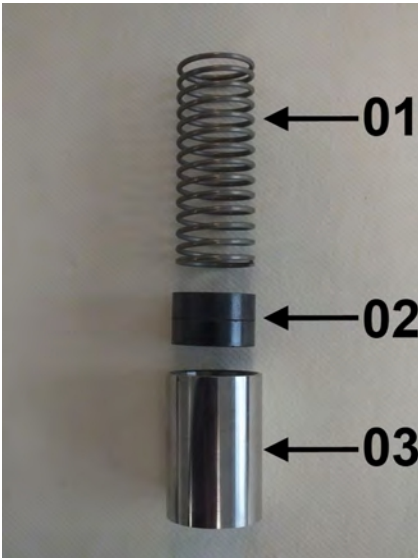

Fig. 40: Spring, magnets and float
7. The inner parts of the flow monitor consist of the spring (Fig. 40/01), magnets (Fig. 40/02) and float (Fig. 40/03).